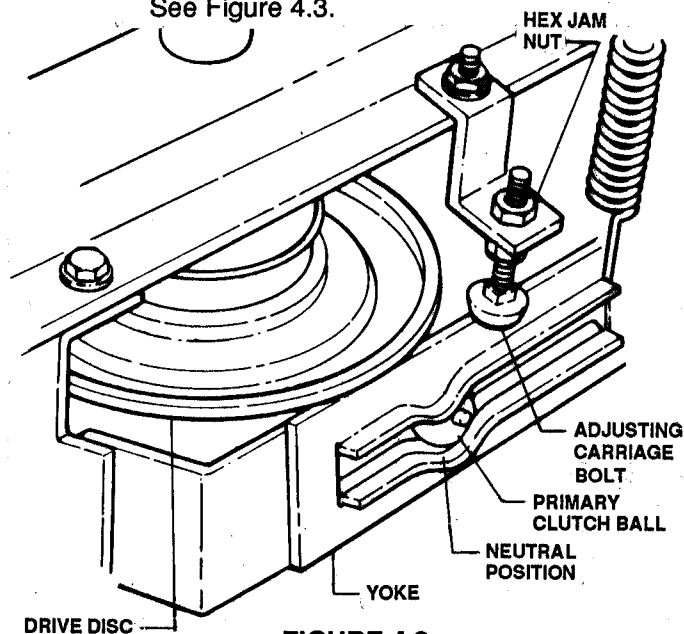

FIGURE 4.3
- Depress Clutch Pedal and shift Transmission Lever to NEUTRAL. Refer to Figure 4.3.
- If the driven disc does rotate, run the adjusting carriage bolt "UP" until disc will not rotate. See Figure 4.3.